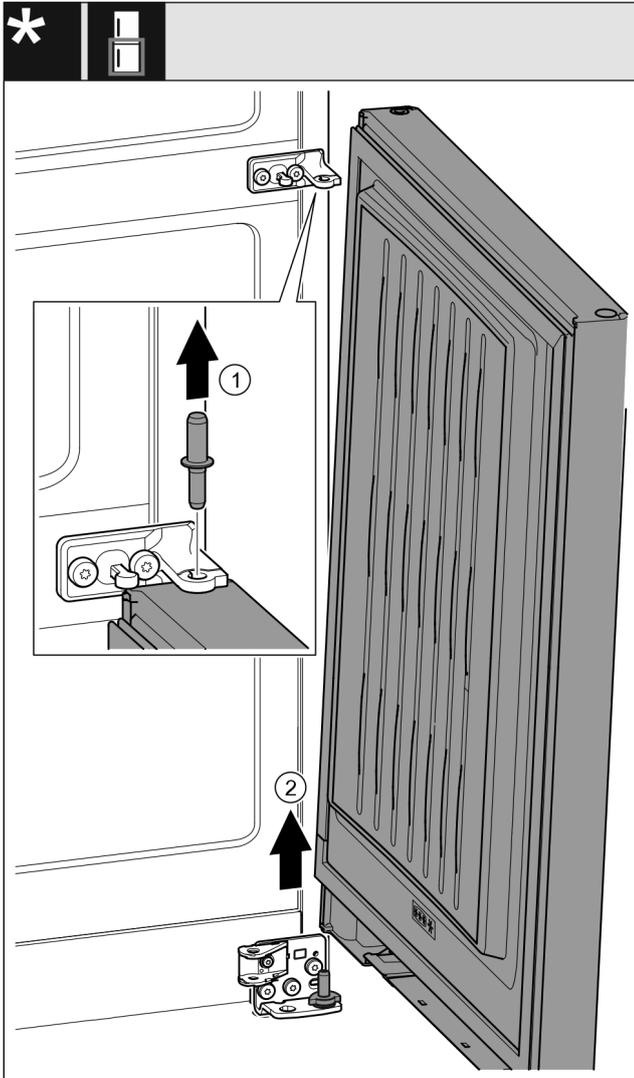

Fig. 27 With closing damper*
- ▶ Pull out the bolt Fig. 27 (1) upwards.*
- ▶ Swing out the door Fig. 27 (2), pull it upwards and set it aside.*